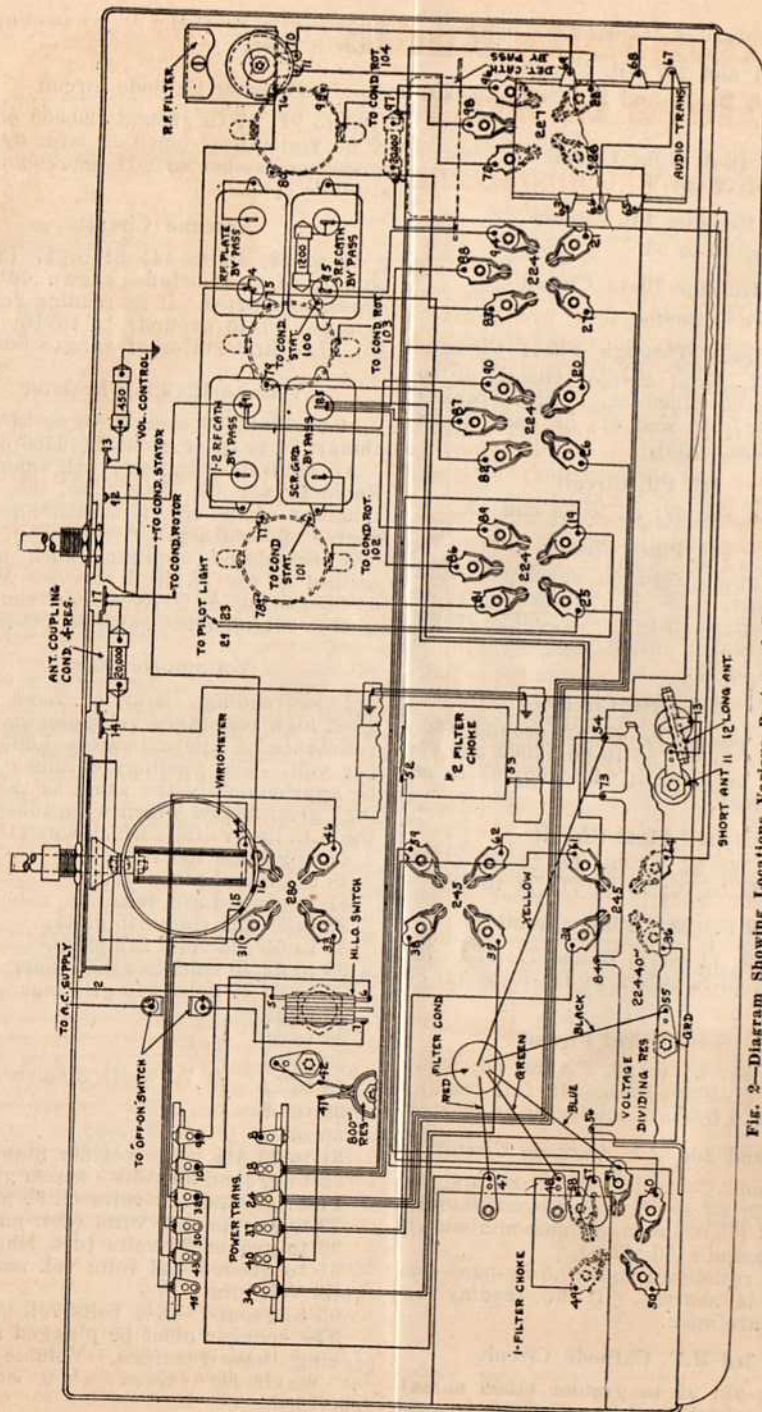

Fig. 2.—Diagram Showing Locations Various Parts and Connections Models 70, 80 and 90.
Tubes used in this receiver are 3—224, 1—227, 2—245 and 1—280. The schematic wiring diagram is shown in 51 and figure 2 shows the location of the various parts on the chassis.
Assuming that all voltages are correct, place voltmeter terminals between the plate terminal of detector socket (72) and ground of Figure 2. A click will be heard in the speaker if the circuit is OK from the detector plate to the speaker. If a test shows this portion of the circuit OK, place voltmeter between the plate terminal of 3rd R.F. socket (83) (socket adjacent to detector socket) and ground, if a click is heard, the circuit is correct between, the plate of the 3rd R.F. stage and ground. If no click is heard, the trouble lies between the plate of the 3rd R.F. stage and the detector plate. This trouble will then be located in the aligning condenser of the detector stage, open or grounded detector grid coil, or the detector tuning condenser shorted.
The continuity of the various circuits of the receiver can be tested by the use of the ordinary voltmeter and B battery. In conducting this test reference should be made to figure 2 which shows the location of the various numbers given in the following paragraphs.